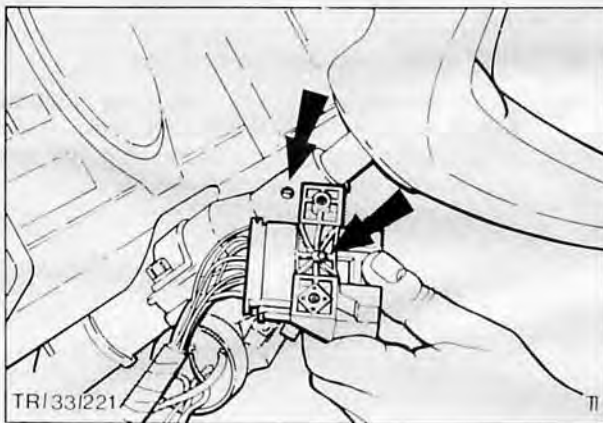
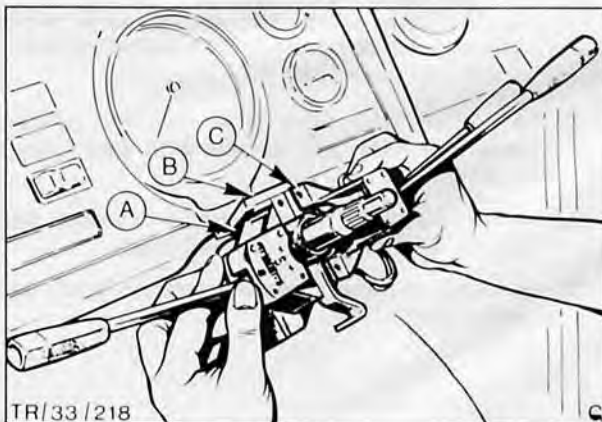

Fig. 38. Peg (arrowed) on switch locates in hole in steering column (arrowed)
Fig. 39. Aligning switches to column
6. Align indicator switch, Fig. 38, steering column shroud bracket, and windscreen wiper/light switch around steering column and secure with two cross-head screws, Fig. 39.